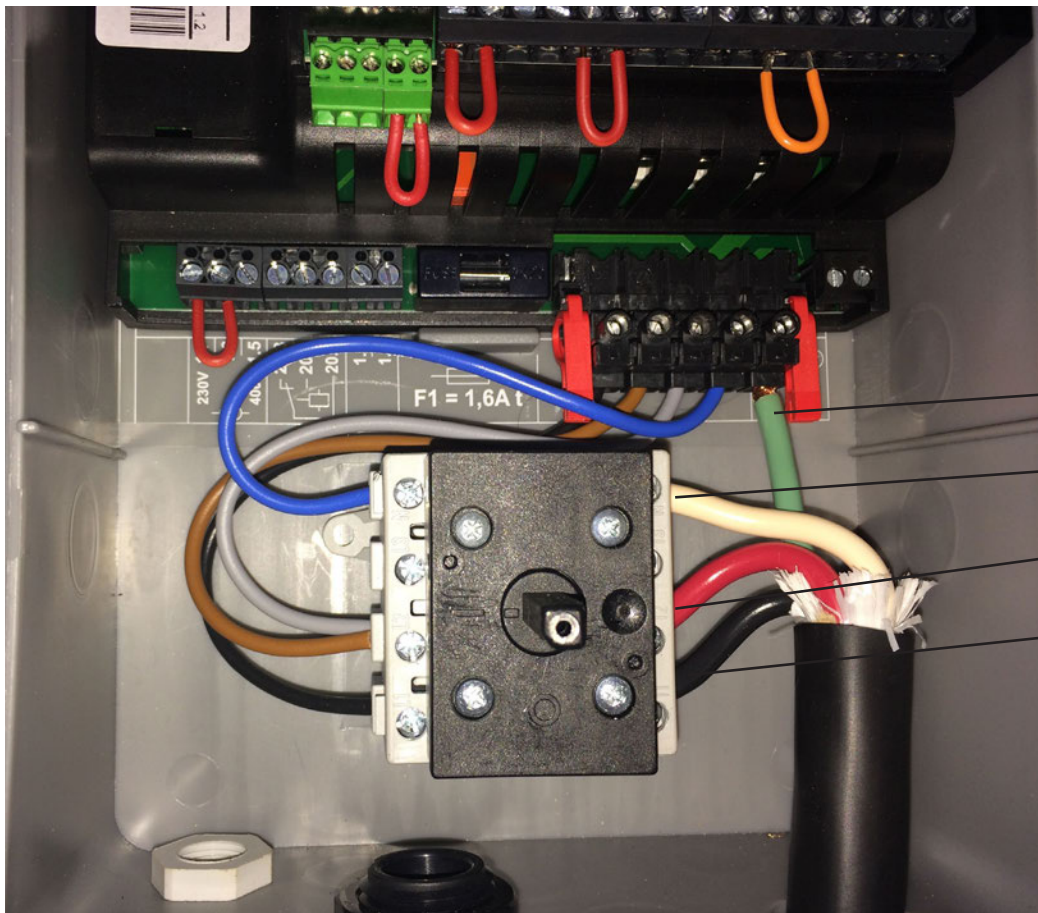

FIG 5D
-Connect mains power through the large knockout hole in the bottom of the control panel using a cable gland as shown in FIG 5D.